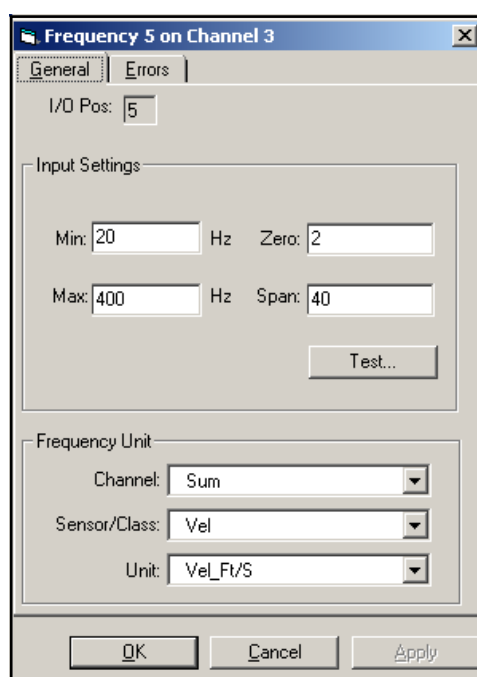

Figure 52: Frequency Properties
6. In the **Frequency Unit** section, select the desired output for **Channel**, **Sensor/Class** and **Unit** from drop-down menus, and click on **Apply**. The window should look similar to *Figure 52* below.